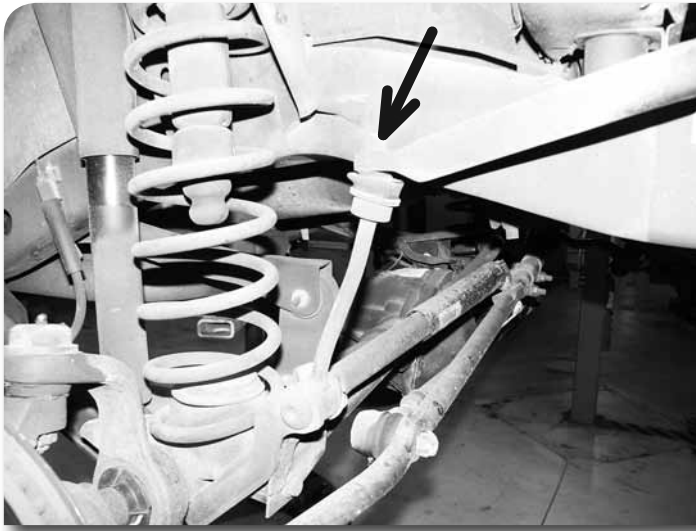

Figure 3
6. Remove the upper mounting nut from the sway bar links **Figure 3**. For XJ/ZJ models remove and save the upper nut and stem hardware. For TJs, disconnect the links from the sway bar with a pickle fork to release the tapered seat. Save nut.